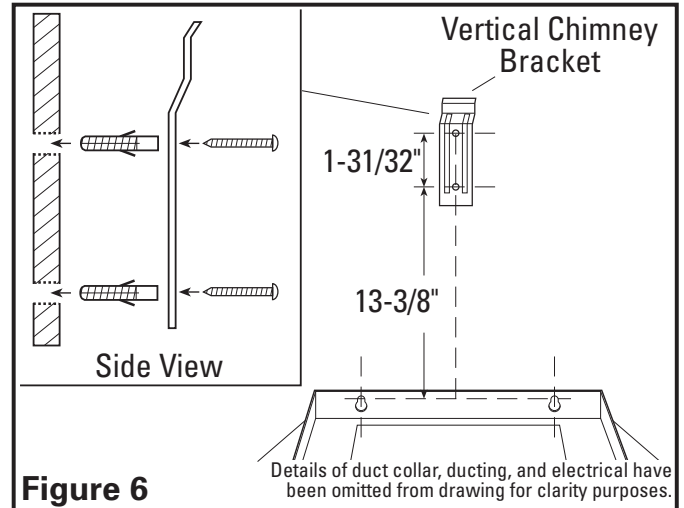

Figure 6
1. Mark the location for the vertical chimney bracket and drill holes into wall using a 1/4" drill bit. Install included wall anchors into holes and secure bracket into place with two provided 3.19 x 32 mm screws (**Figure 6**).